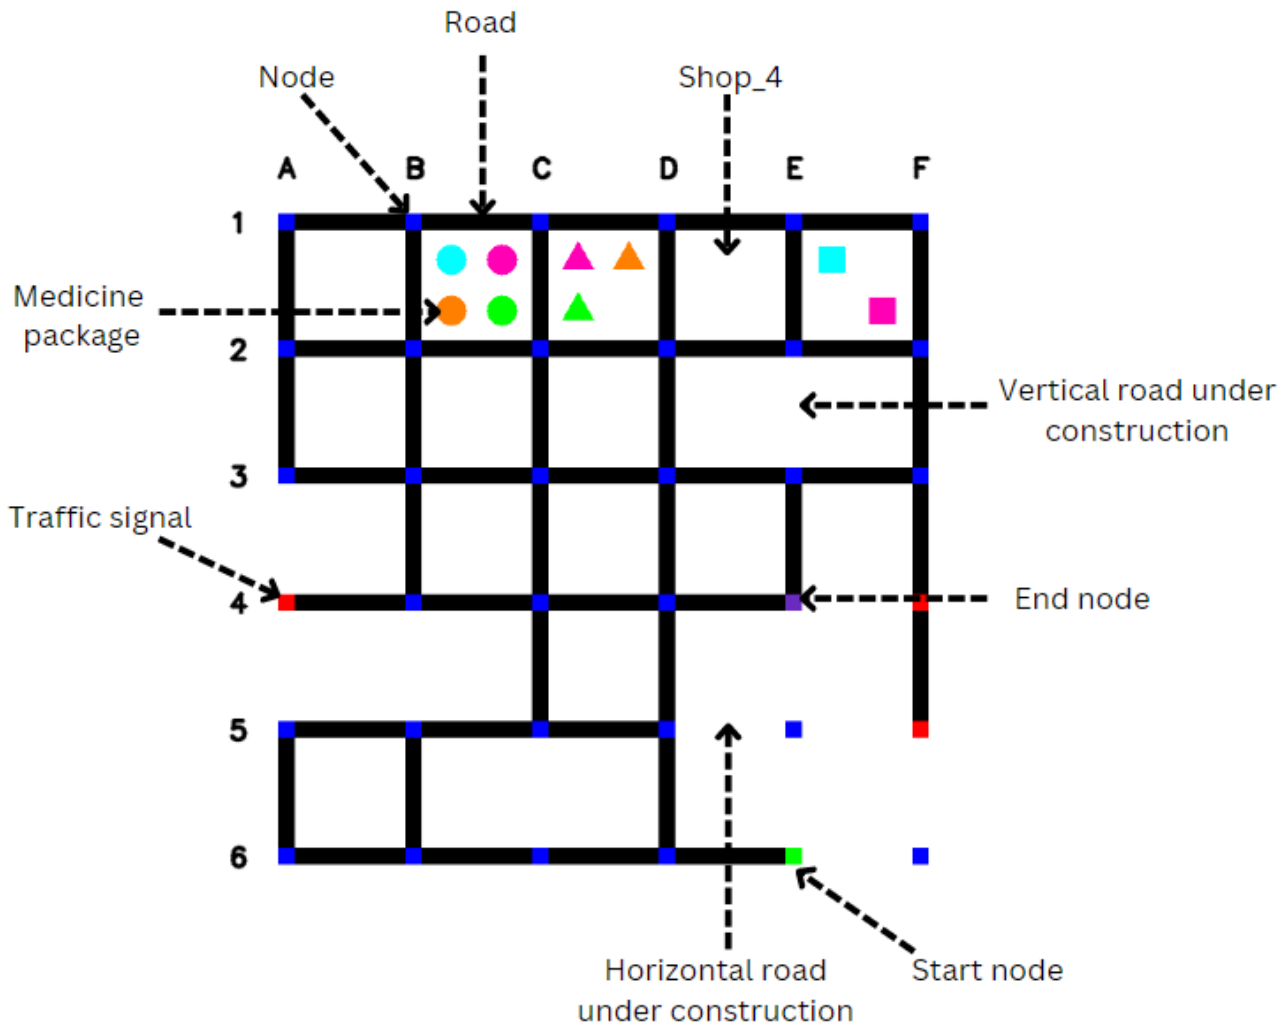

Figure 2: Sample Test image
A sample test image is shown in Figure 2.
**1. Start Node:** The **Green square** shown in Figure 2 (E6), is the start node. The robot should start its traversal from this node **ONLY**. The Start Node can be present in any column but **row number will remain 6**. The robot should always face in the upward direction (i.e robot's front should be facing the title printed on the top of the arena) where the medical shops are present.
**2. End Node:** The **Purple square** shown in Figure 2 (E4), is the end node. The robot should complete the package deliveries required and stop at this node. The End Node can be present in any column but **row number will be 3, 4 or 5**.
1. **Horizontal Roads Under Construction:** These are horizontal roads which are **missing**. For example, the horizontal road under construction marked in Figure 2 will be represented as “D5-E5”.
2. **Vertical Roads Under Construction:** These are vertical roads which are **missing**. For example, the vertical road under construction marked in Figure 2 will be represented as “E2-E3”.
- Traffic signals are represented using **Red squares** in the test image. Each signal is represented using the node at which it is present. For example, the traffic signal marked in Figure 2 will be named “A4”.
- The **packages** should be generated in the respective shops at a position as given in Figure 4 (for the configuration given in Figure 2). The dimensions for keeping the packages is also shown in Figure 5.